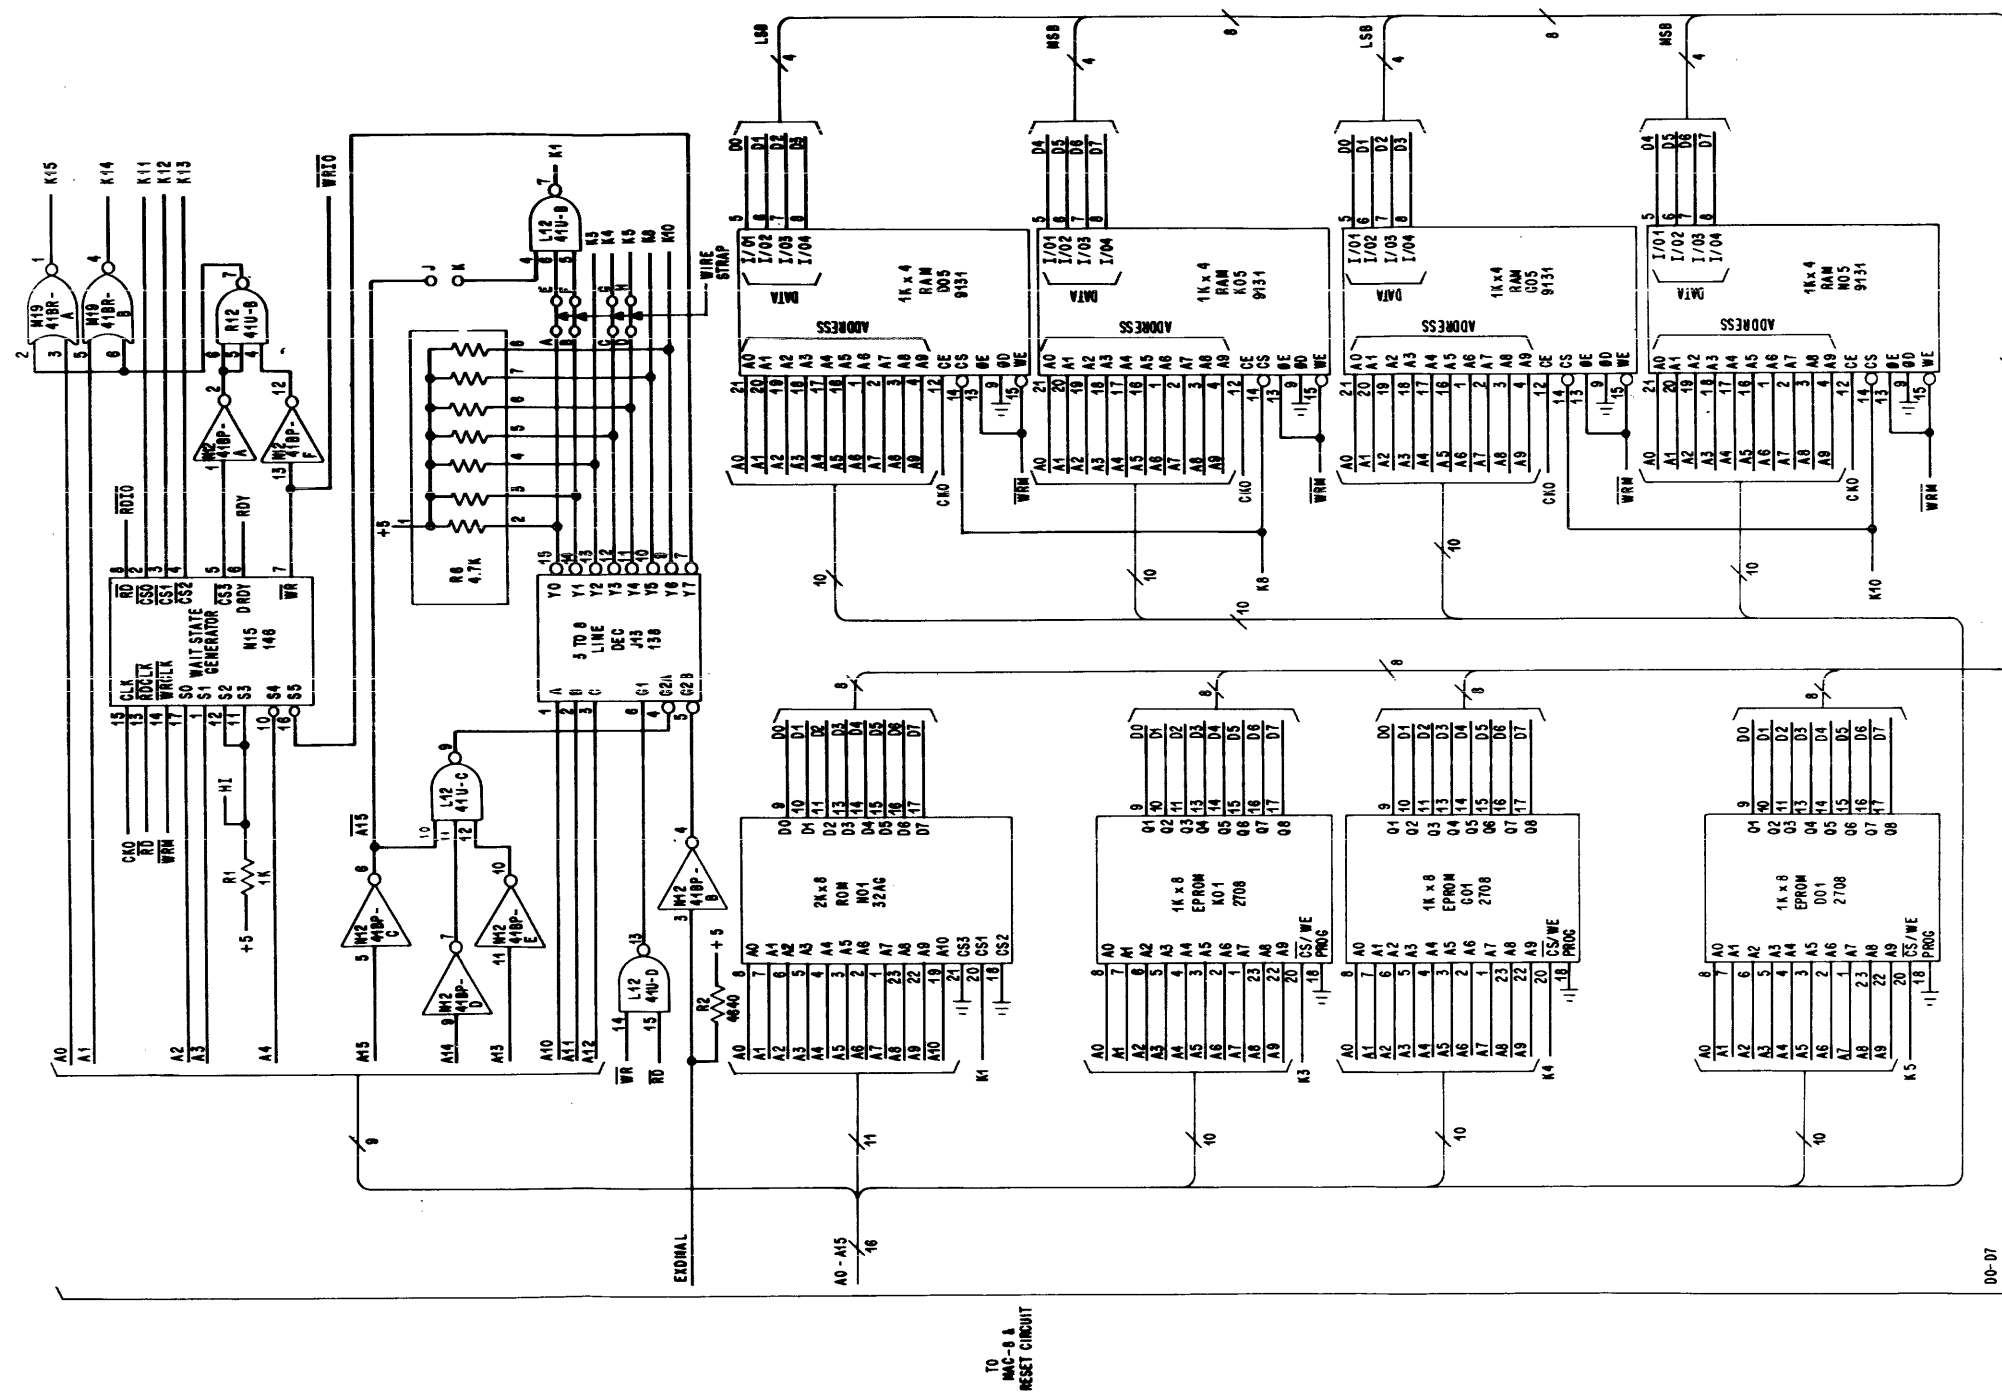

Figure 2-3. ROM and RAM Schematic Diagram
2.2.2 ROM and RAM (See Figure 2-3.)
A wait state generator integrated circuit (WE-146D) provides the required decoding and timing for the I/O devices. Refer to Figure 2-3 for circuit details.